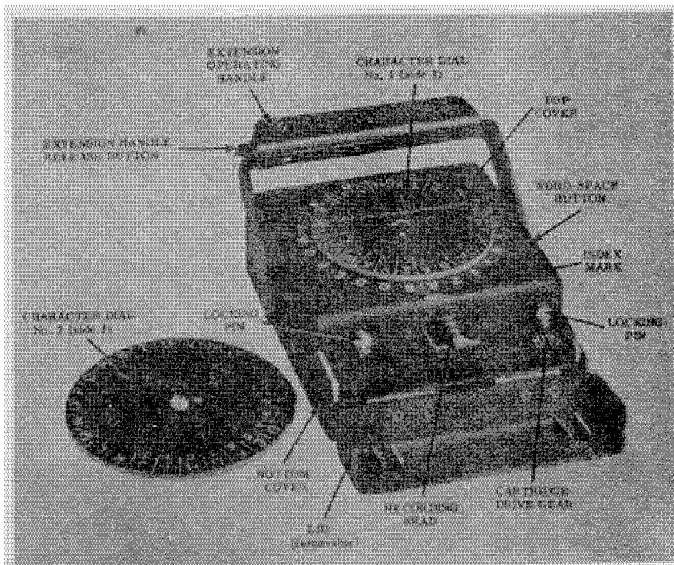

Figure 1-2. CO/B-8 Coder.
1.2.1 *CO/B-8 Coder (MX-4496/GRA-71)*. Essentially, the CO/B-8 Coder (fig. 1-2) is an electromechanical Morse code generator that enables an operator to record messages in a CA-3B Cartridge. The purpose of the CO/B-8 Coder is to generate magnetic impulse trains, corresponding to Morse code patterns, for subsequent recording on magnetic recording tape.